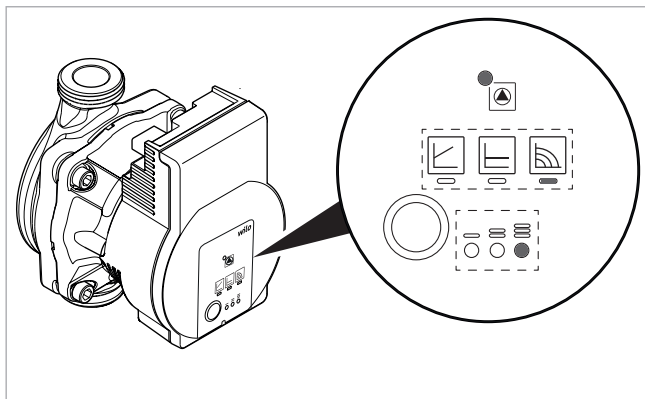

Fig. 63: Basic setting (constant speed, characteristic curve III)
** Press the 9th button to return to the basic setting (constant speed, characteristic curve III, see → Fig. 63).